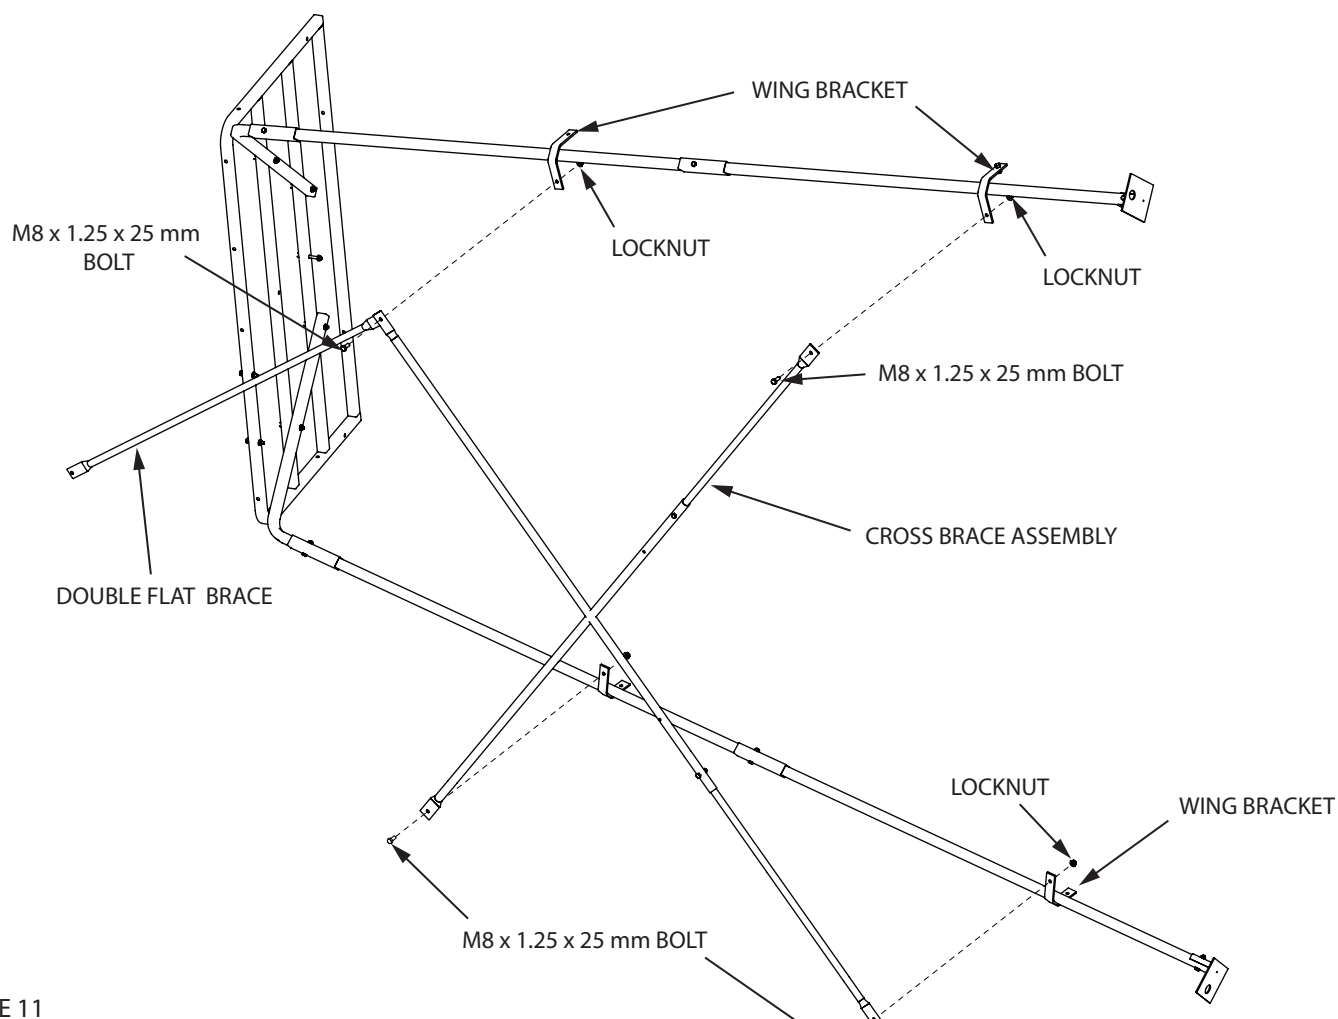

FIGURE 11
- a. Attach the opposite end of all four double flat braces to the wing bracket of each top leg section using (4) provided M8 x 1.25 x 25 mm bolts and locknuts. **SEE FIGURE 11**
- b. Attach (2) cross brace assemblies to wing brackets of leg sections, on each side of the tower (8 total cross brace assemblies), using (16) M8 x 1.25 x 25 mm bolts and locknuts. **SEE FIGURE 11**